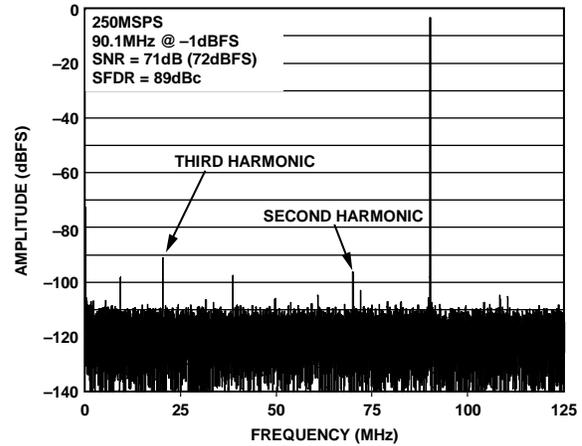

Figure 13. Typical FFT, AD9642
3. Click the **Save** disk icon within the **Graph** window to save the performance plot data as a .csv formatted file. See Figure 13 for an example.